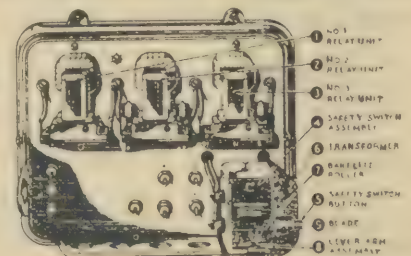

Fig. 3—Inside view of Type R100A Protectorelay
**THE SAFETY SWITCH** - The Safety Switch should be tested by turning off the oil supply to the burner and starting the burner without combustion taking place. After approximately two minutes, the timing of the safety switch, the burner should stop on safety. Wait approximately five minutes for safety switch to cool. Turn on oil supply safety switch button (5-Fig. 3) to start the burner.